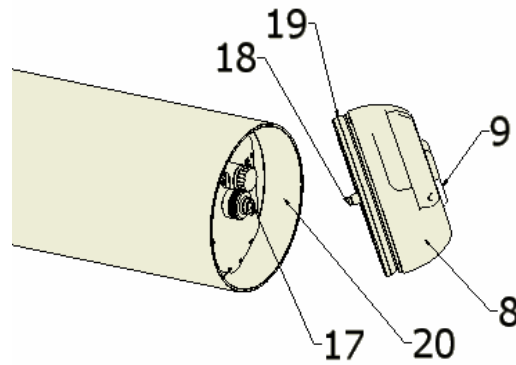

Figure 6
Stand the propeller protection on a level surface. Carefully check that the lock O-ring (19), (see fig. 6) is properly seated and that it is clean and suitably greased with silicone oil (the one commonly used for underwater gear). Check that the rim of the body (20), is clean, and if necessary pass a clean cloth to remove any dust or sand. Insert the front shell (8) matching the screw (18) up with the hole (17). Turn the wheel (9) clockwise until it closes completely and tighten using only two fingers.